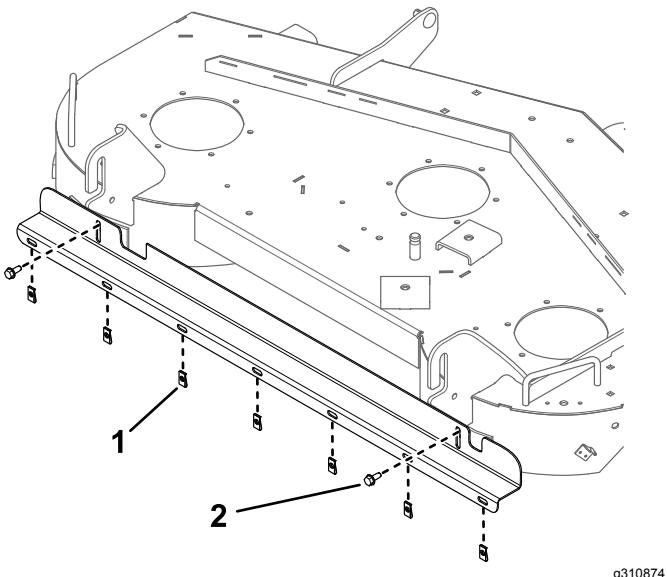

Figure 4
4. Install the bracket to the holes using 2 thread-forming bolts (Figure 4).
1. Speed nut (7)	2. Thread-forming bolt (2)
5. Install 7 speed nuts to the open holes in the bracket (Figure 4).